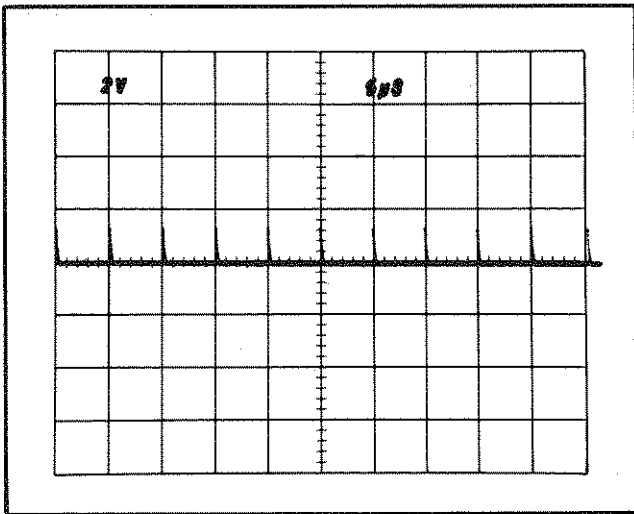

Fig. 5-10. CRT display showing correct 5 μs timing.
- c. CHECK—CRT display for one marker each division between the second and tenth vertical lines. Check that sweep timing is within 0.16 division (2%) over the center eight divisions. See Fig. 5-10.